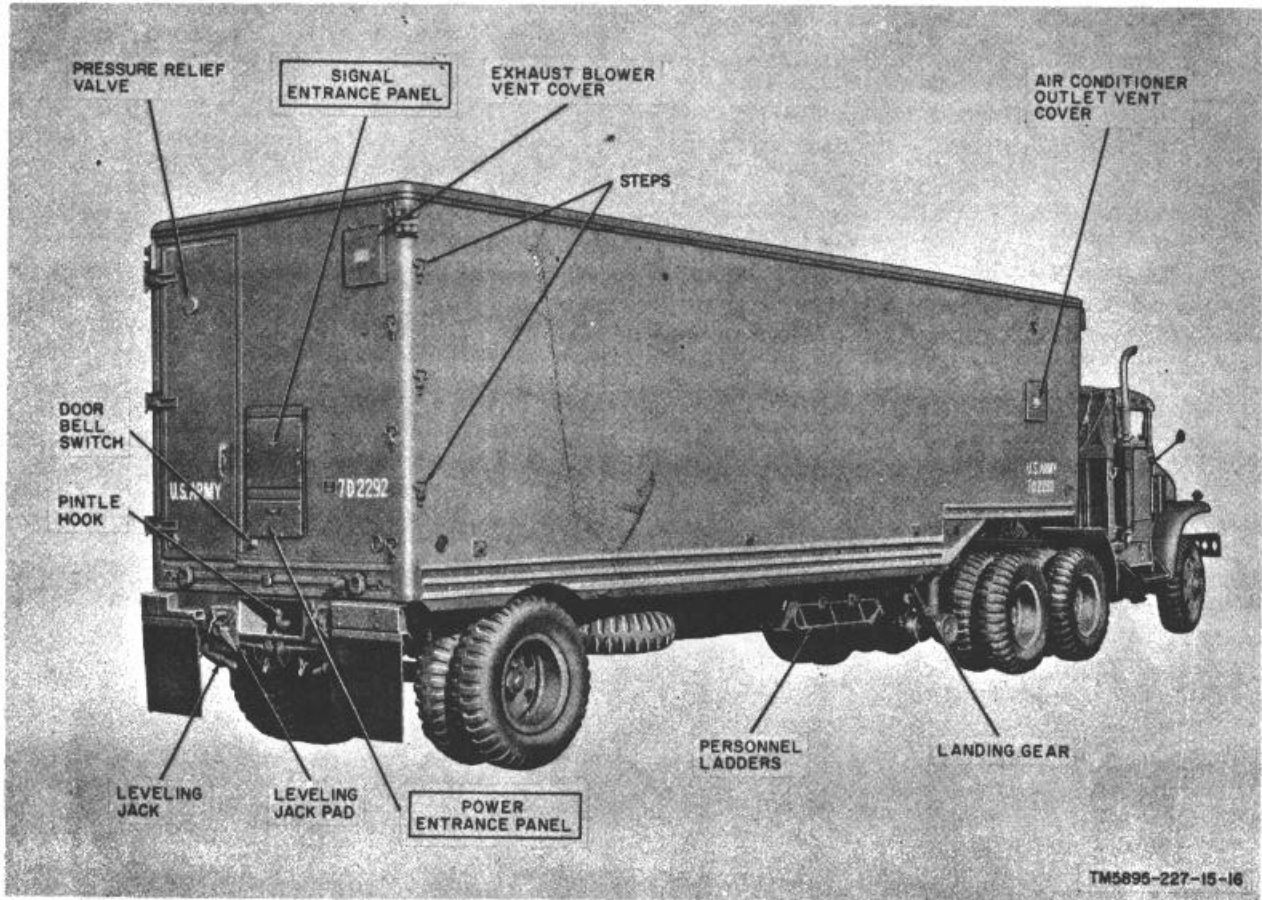
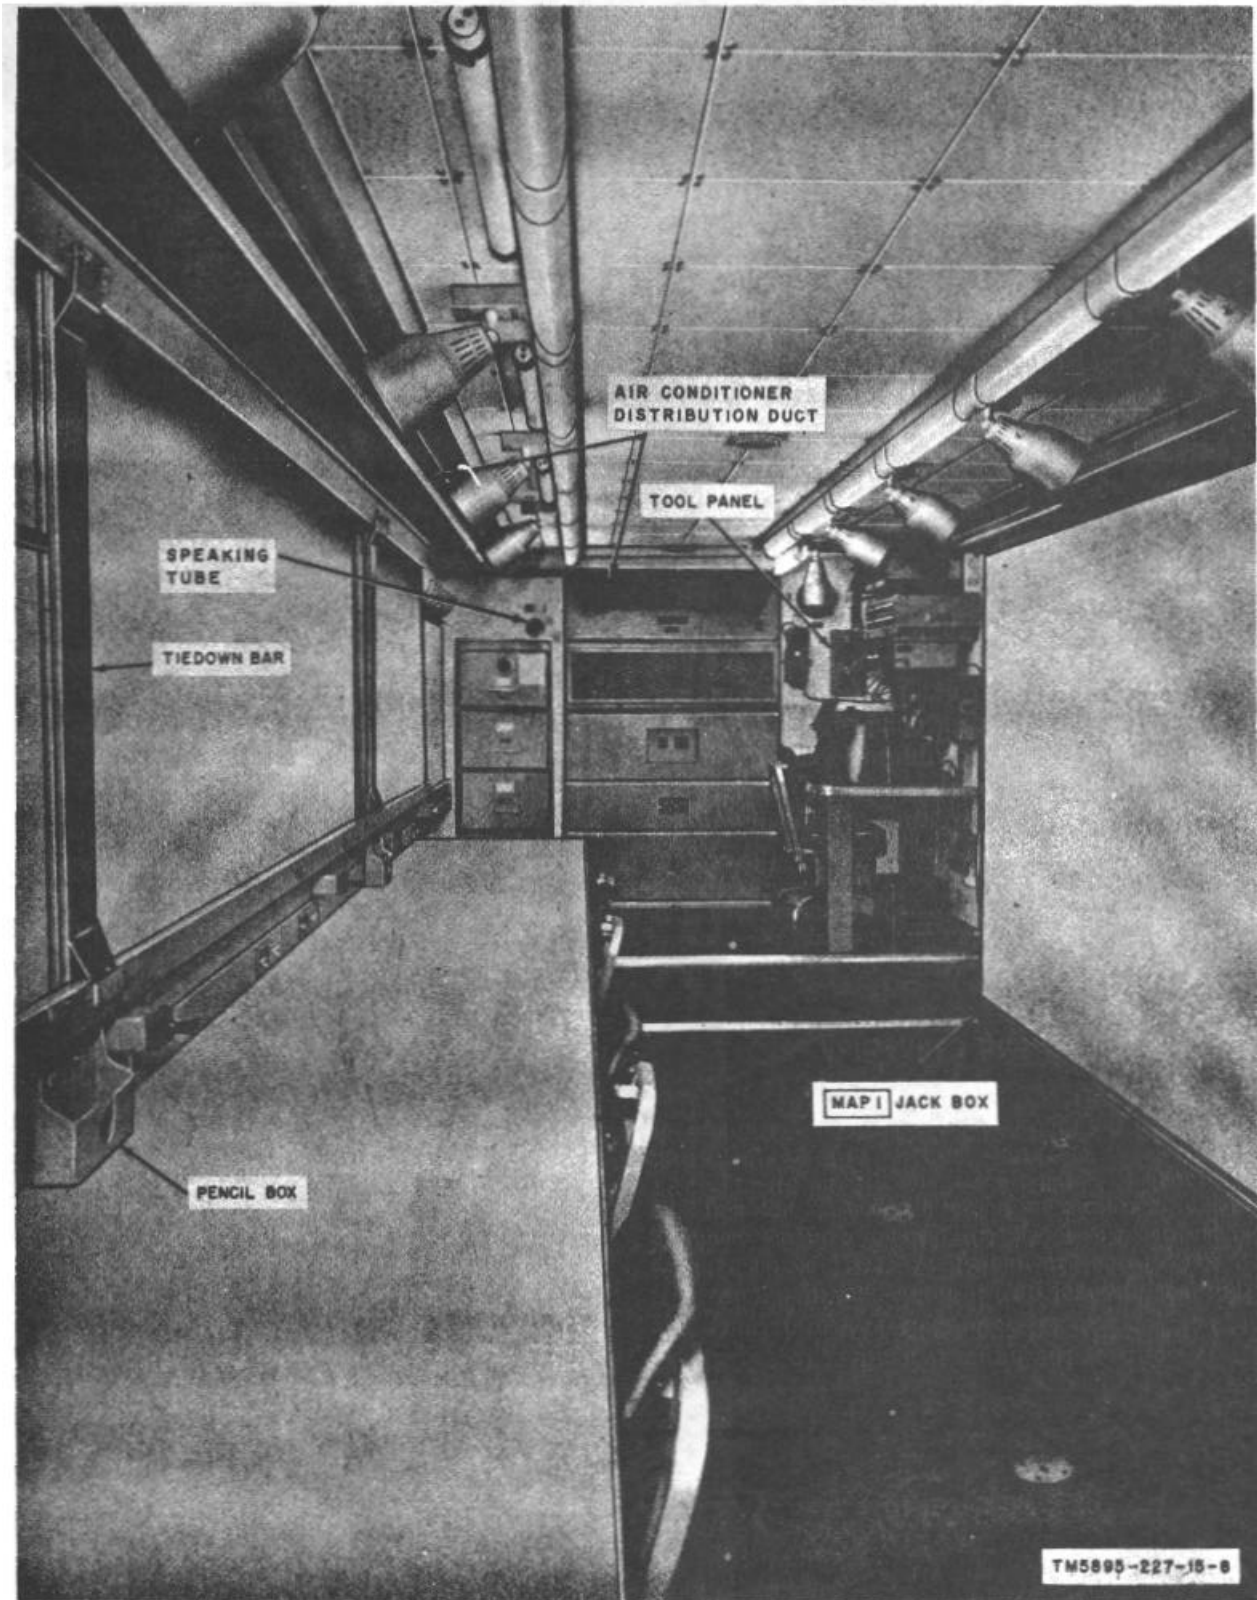
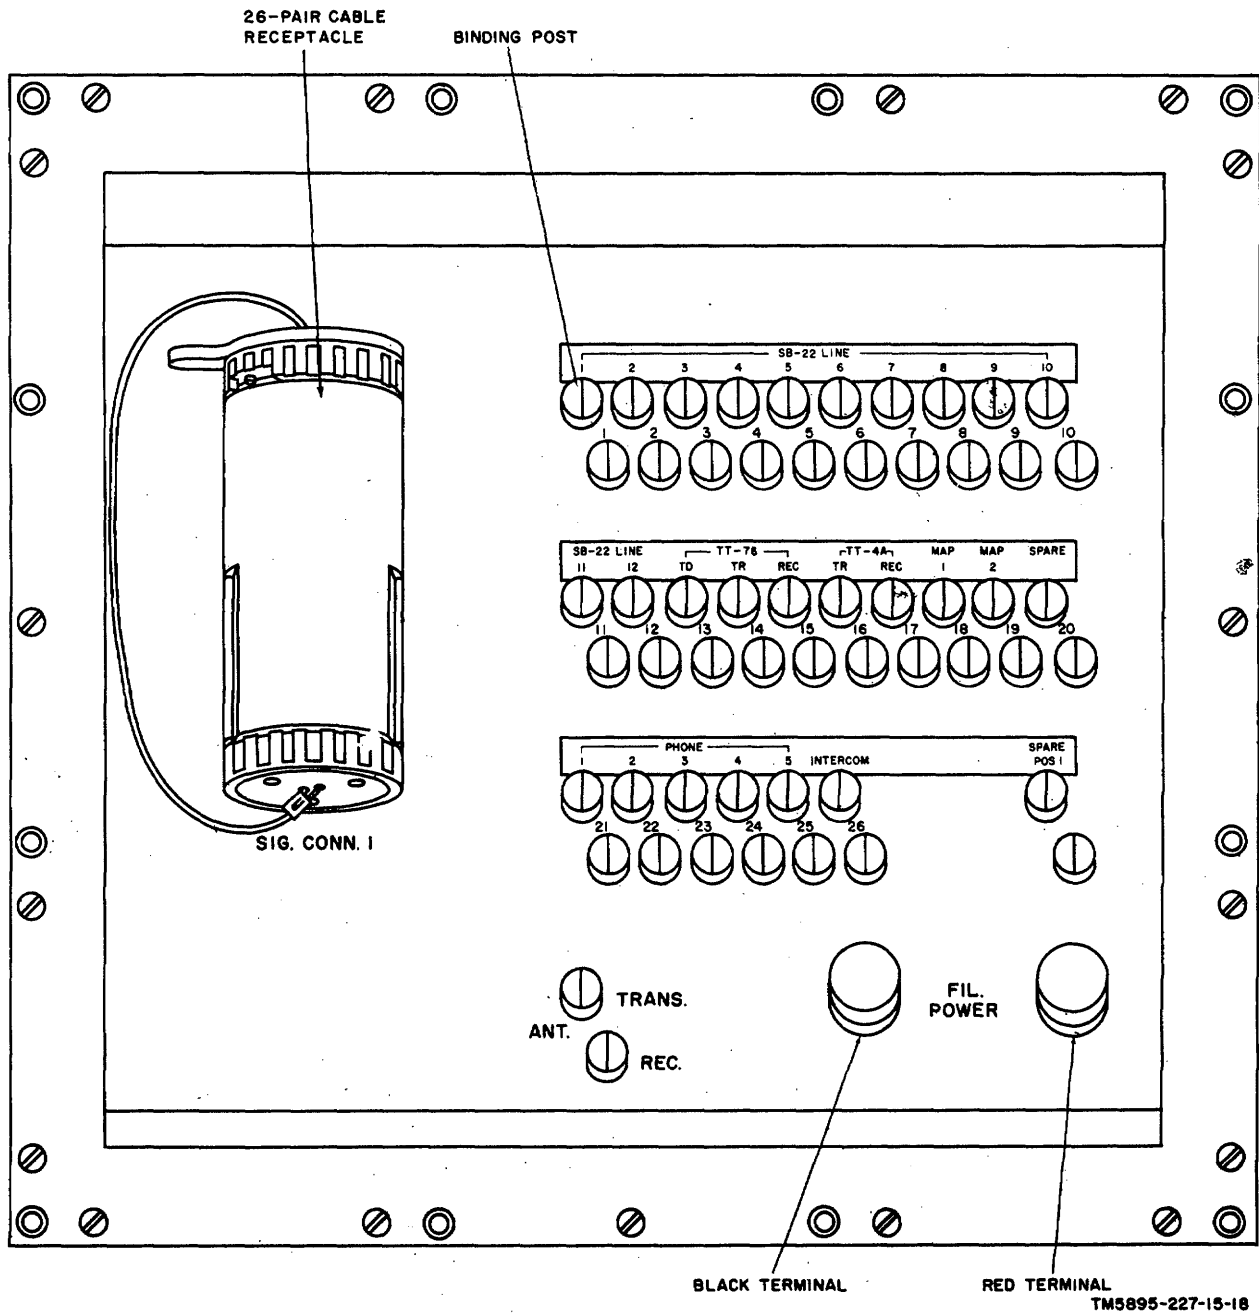

Figure 8. Operations Center, Communications AN/MS-25 and tractor, exterior rear and curbside view.
Figure 10. Operations Center, Communications AN/MSC-25, interior front view.
Figure 12. SIGNAL ENTRANCE panel.
rear wall of the van (fig. 8). It contains receptacles for connecting ac power (para. 22) to the van, and a duplex convenience ac receptacle (115V AC) equipped with a spring-loaded watertight cover. The power entrance box cover is equipped with folding side panels (not shown) for weather protection and is secured with captive screw-type fasteners.
- (4) *Signal entrance box*. The signal entrance box (fig. 12) is mounted in the exterior rear wall of the van (fig. 8). It contains a 26-pair cable receptacle and 29 pairs of binding posts. Binding post pairs No. 1 through 26 are for optional use in connecting signal circuits to the AN/MSC-25 (para. 23). The SPARE POS 1 binding posts provide a spare signal circuit to operating position 1 (fig. 15). The ANT (TRANS. and REC.) and FIL POWER binding posts are provided for connecting a radio equipment circuit.
d. *Air Conditioner* (fig. 21). The air conditioner is mounted on the floor and extends through the front partition wall (fig. 16). It can be used for cooling or ventilating (para. 29d). An air duct, connected from the rear of the air conditioner to a lighttight air conditioner outlet vent (fig. 8), provides condenser air discharge to the outside of the van. The air duct connected to the front of the air conditioner (fig. 10) distributes conditioned air throughout the work area.